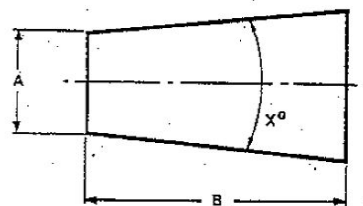

Fig. 48. Details for Taper Threads
7. When dies for taper threads are required, it is necessary to supply the following additional data concerning the work. See Fig. 48.